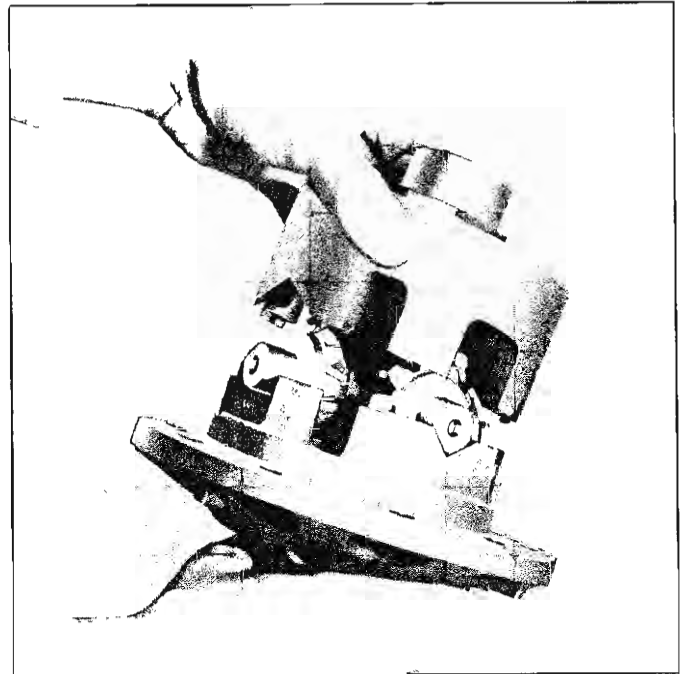

Fig. 43—Case Assembly
6. Hold end case half of housing with finger through the bearing trunnion to hold side gear in place and, with scribe marks aligned, place the assembly on the ring gear flange half (fig. 43).